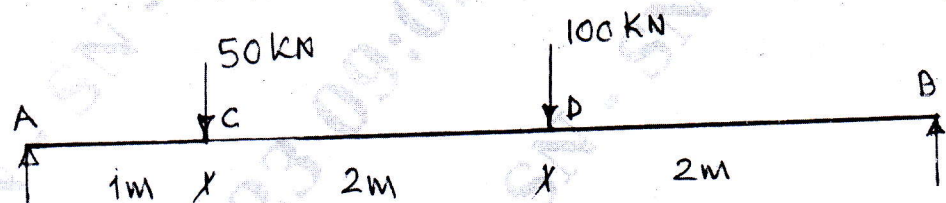

Fig. Q9
- 9 Calculate the slope at the supports and deflection under the loads for the beam shown in Fig. Q9. $E = 2 \times 10^8$ kN/m², $I = 0.0003$ m⁴ (20 Marks)